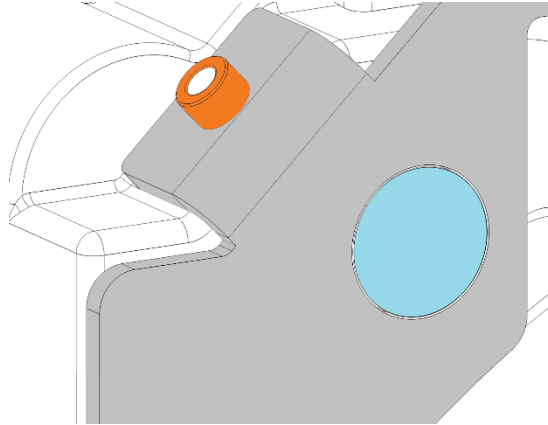

Figure 4
- 5.4.2. Verify that the Drilling Jig is properly mounted with the top tabs resting on the angled face of the adapter. Shown in *Figure 4*